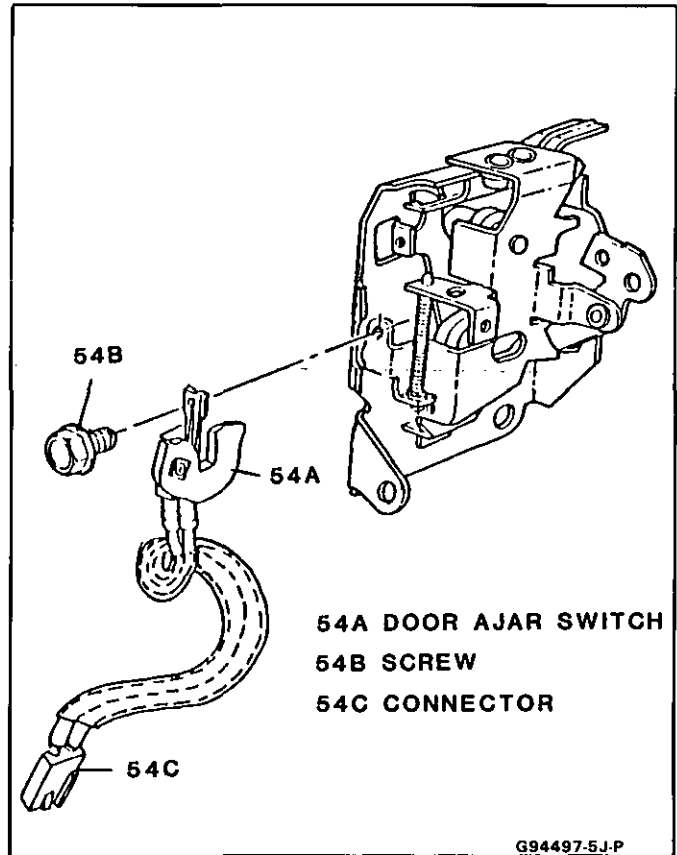

Fig. 5-26 - Installing Door Ajar Switch
4. Door ajar switch wire connector from main harness (54C, Fig. 5-26)
5. Lock assembly screws – lower assembly to disengage outside handle lock rod (50)
6. Lock assembly (54)
5. Door ajar switch wire connector to main harness (54C, Fig. 5-26)
DOOR AJAR SWITCH**↔ Remove or Disconnect (Fig. 5-26)**